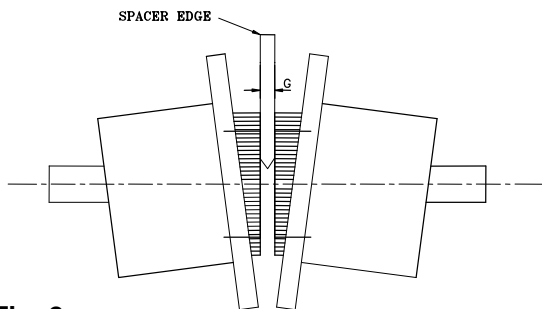
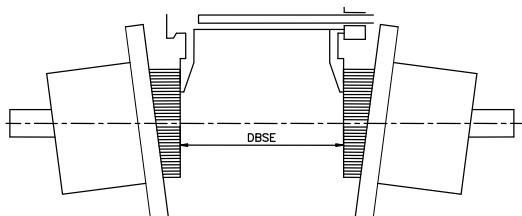

Fig. 2
Fig. 3
3. With one machine firmly bolted down, set the equipment at a distance 'G' (refer Table 'A' on Page No. 8) for standard V/H coupling by using spacer bar equal to thickness to the reqd. gap 'G' as shown in fig. 2 on Page No. 6. For spacer type, set the equipment at a distance equal to DBSE by using vernier calliper as shown in fig. 3 on Page No. 6.